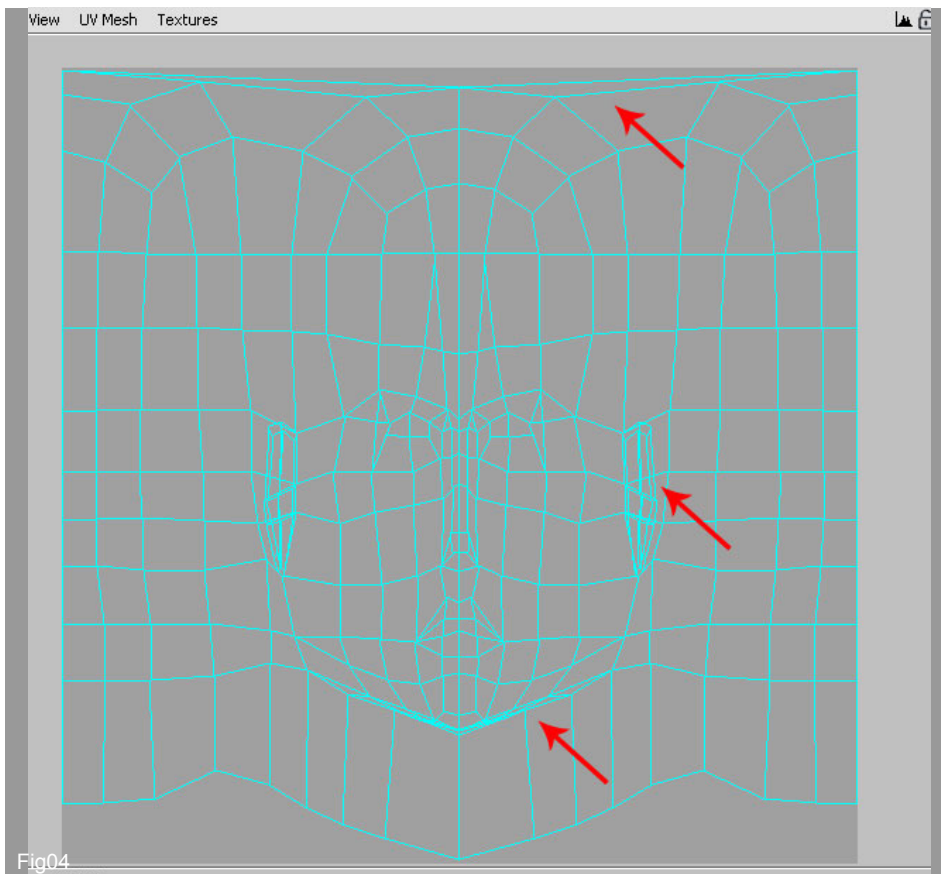

Fig04
4. Next step involves in modifying the mesh of the head to make it more regular avoiding so the stretching. How you can see from Fig04 we need to adjust some parts of the head (indicated by red arrow) where the checkerboard is distorted.